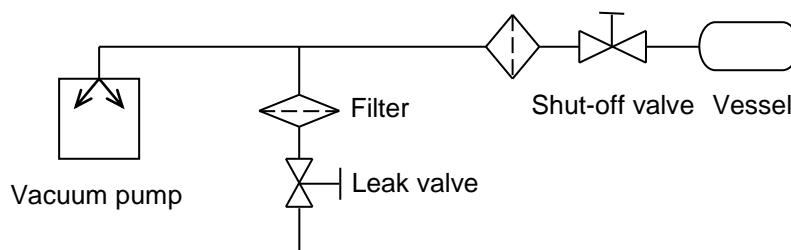

Fig.3-2 Example of Piping Used When Evacuating a Vessel
- 5) When evacuating a vessel, ensure that a shut-off valve is placed between the pump inlet pipe and the vessel (see Fig.3-2).